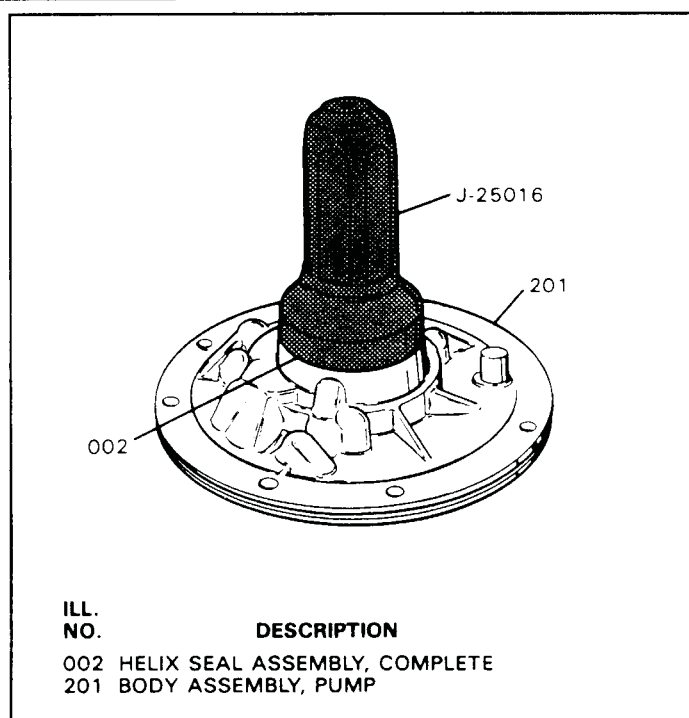

Figure 96
3. Install new front pump seal into pump body using seal driver, as shown in Figure 96.